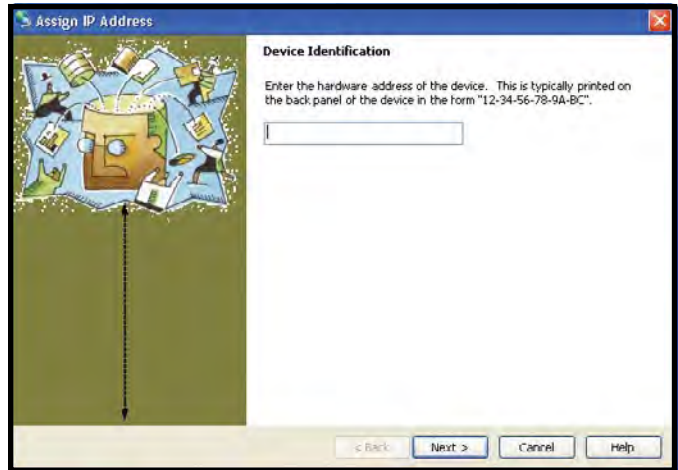

Figure 66. Assign IP Address, Device Identification Window
- V. Click on the “Assign IP” button located at the top of the window. The “Assign IP Address” window will open (see Figure 66).